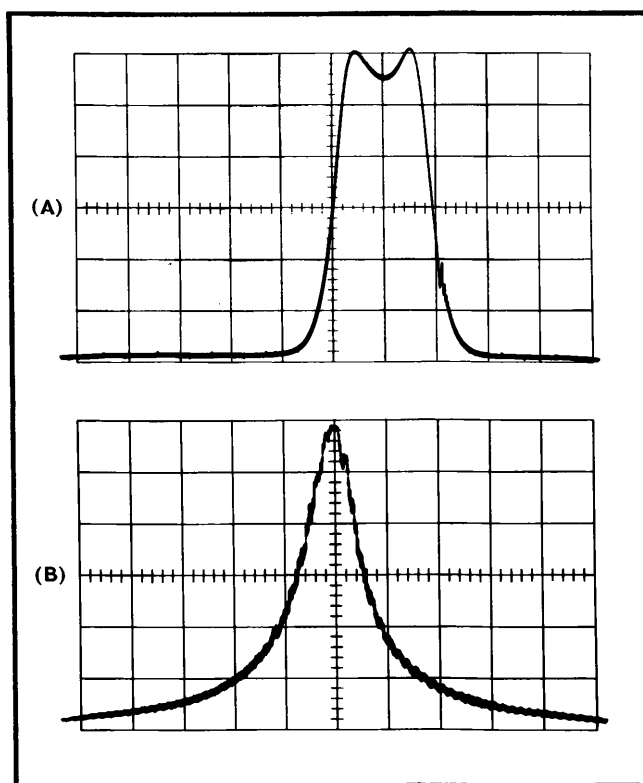

Fig. 6-11. Typical spectrum display for final Resolution adjustments (Step 4).
k. When properly calibrated, the resolution waveform should be 100 kHz wide at 3 centimeters above the baseline when the RESOLUTION control is turned fully clockwise and should become narrower at each step as the control is turned counterclockwise. At the fully counterclockwise position, the resolution should not be more than 1 kHz wide at 3 centimeters above the baseline. (See Fig. 6-11).